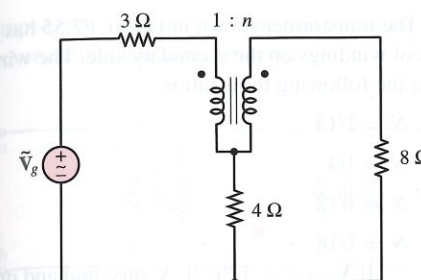

Figure P7.48
7.48 Consider the 8- Ω resistor shown in Figure P7.48 to be the load. Assume $\tilde{V}_g = 110 \angle 0^\circ$ V rms and a variable turns ratio n . What value of n results in maximum power (a) dissipated by the load? (b) supplied by the voltage source? What value of n results in maximum power transfer efficiency from source to load?